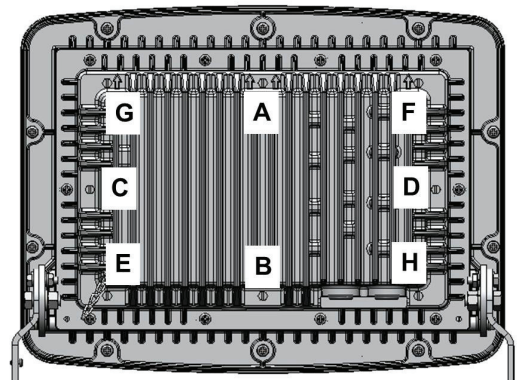

Figure 5 - Back Cover Installation
2. Ensure gasket joint, back cover and driver housing surfaces are clean and free of damage or debris. Put back cover in place on driver housing and start all (8) back cover screws hand-tight. Initially torque back cover screws to 40 In-lbs in sequence of A-B-C-D-E-F-G-H as shown in Figure 5. Next torque back cover screws up to 79 In-lbs again in the sequence of A-B-C-D-E-F-G-H. Finally torque screws through A-B-C-D-E-F-G-H sequence one final time and ensure torque values are at 79 In-lbs.